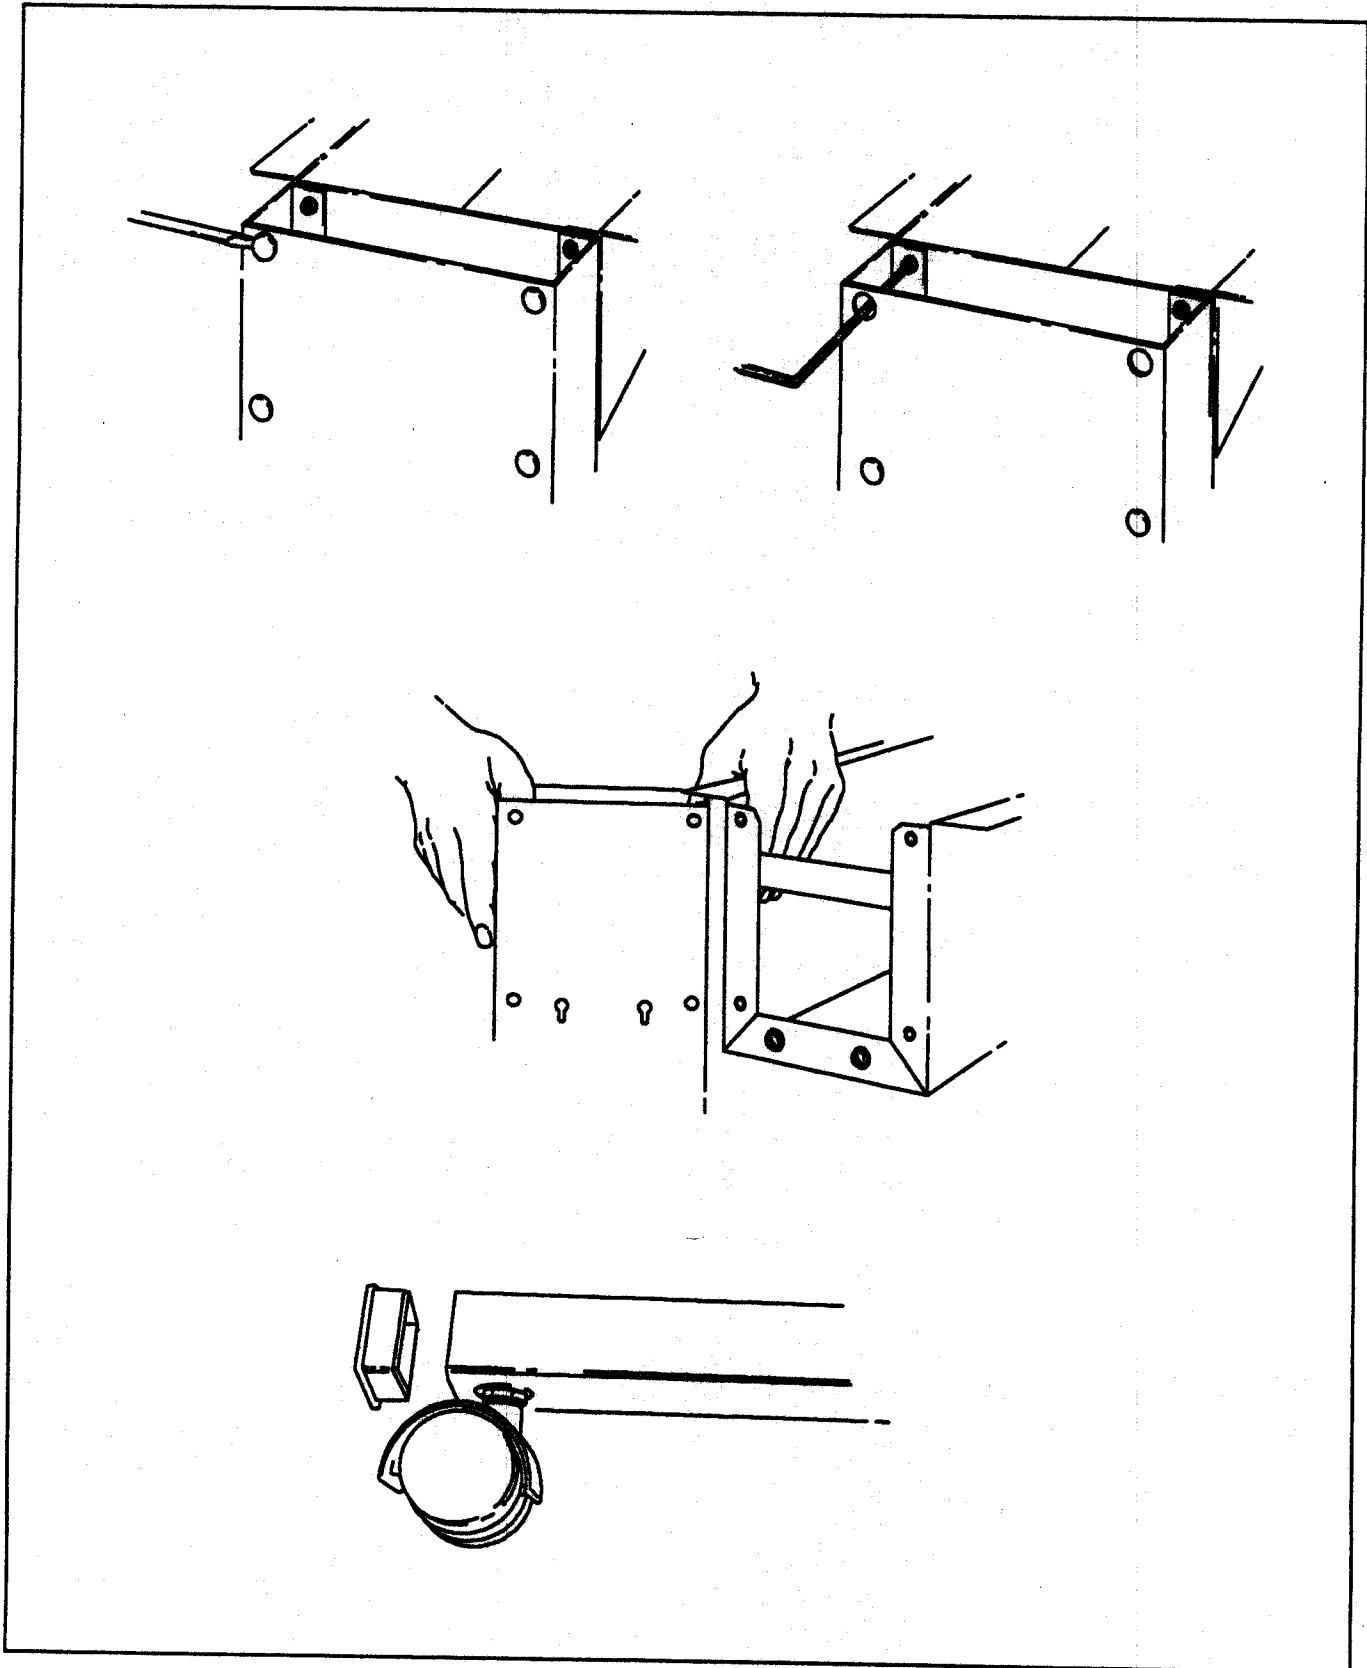

Figure 6-38. Plotter Stand Disassembly
- a. Select one of the plotter's legs and pry the four press-in screw caps from the side of the leg. See Figure 6-38.
- b. Remove the four  $\frac{1}{4}$  in. allen-head screws and washers from the plotter leg. See Figure 6-38.
- c. Grasp the plotter base with one hand and one of the plotter's legs with the other hand. Raise the base up while pushing down on the plotter leg. The leg should slide in the screw slot. When the leg has moved to one extreme of the slot, move the leg away from the base to remove it. See Figure 6-38.
- b. Pry the end cap out of the recess in the leg to remove. See Figure 6-38.